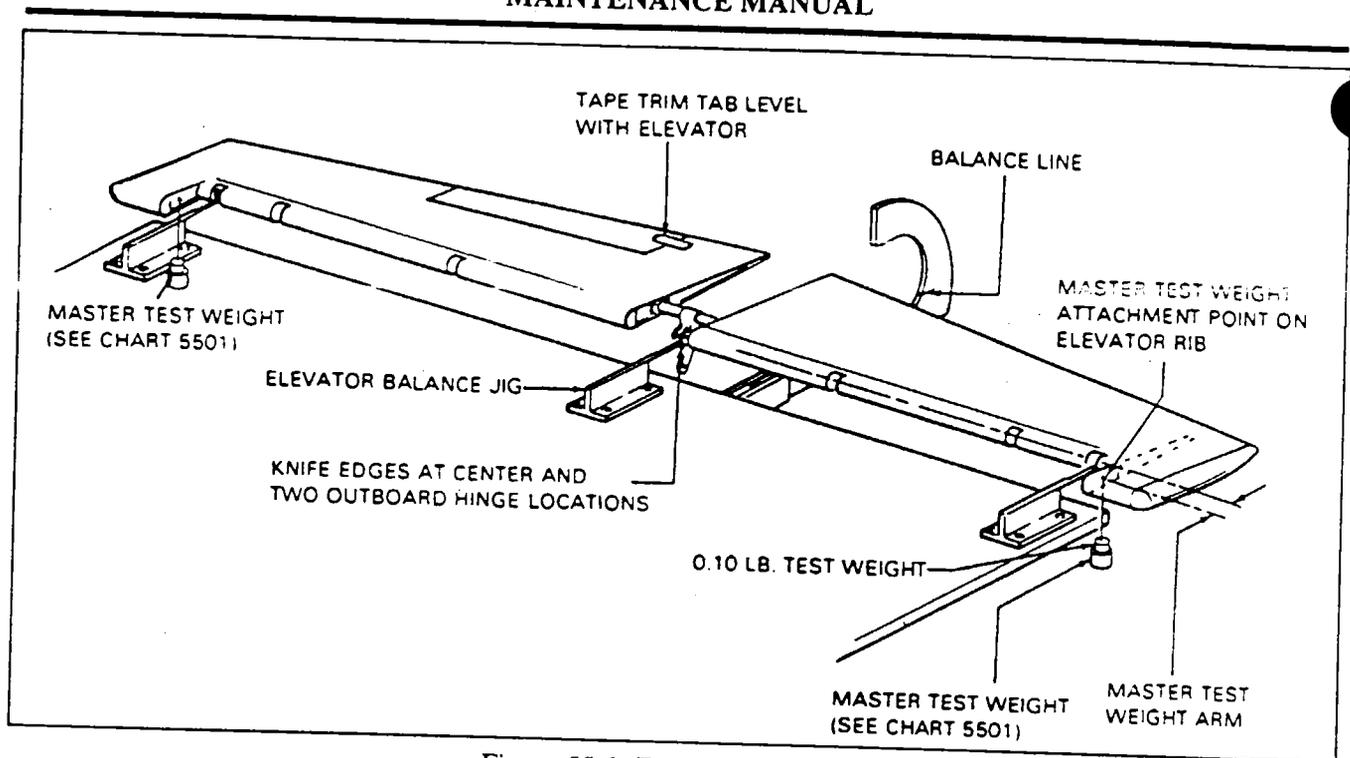

Figure 55-2. Elevator Balancing
**ELEVATOR BALANCING PROCEDURE.** (Refer to Figure 55-2.)
4. Hang the fabricated master test weight in the tool hole of the elevator counterbalance rib assembly, on both sides. Check the master test weight arm location as shown on Figure 55-2 and specified in Chart 5501.